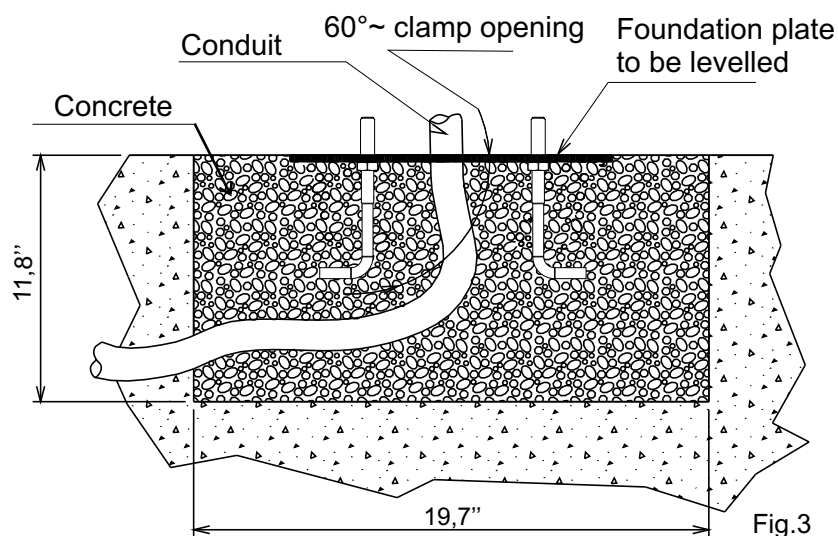

Fig.3
- Widen the foundation plate clamps till they reach approx. 60° (Fig. 3).
- Fill the hole with R425 concrete and place the foundation plate as shown in Fig. 3.